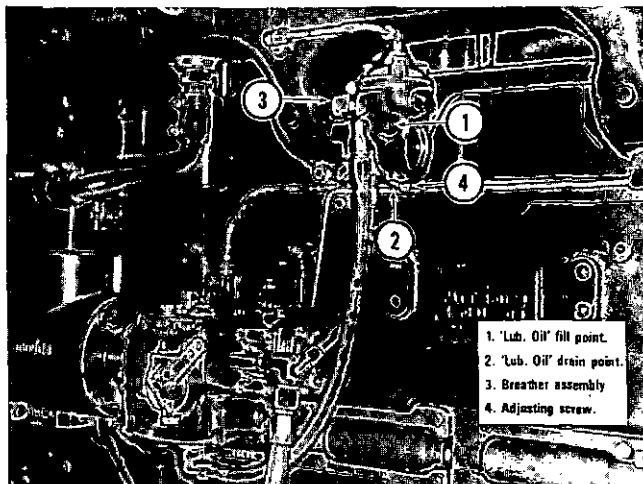

Fig. 2-53 (N10503) Aneroid
1. Remove fill plug (1, Fig. 2-53) from hole marked "Lub Oil".
2. Remove drain plug (2) from bottom of aneroid.
3. Replace pipe plug (2), fill aneroid with clean engine lubricating oil. Replace fill plug (1).
Normally, no adjustment of the aneroid is required; however, if smoke is evident and all other engine adjustments have been checked, back out adjusting screw (4, Fig. 2-53). If screw must be backed out until acceleration is slow, have unit checked by a Cummins Distributor.
Remove and replace aneroid breather (3, Fig. 2-53).